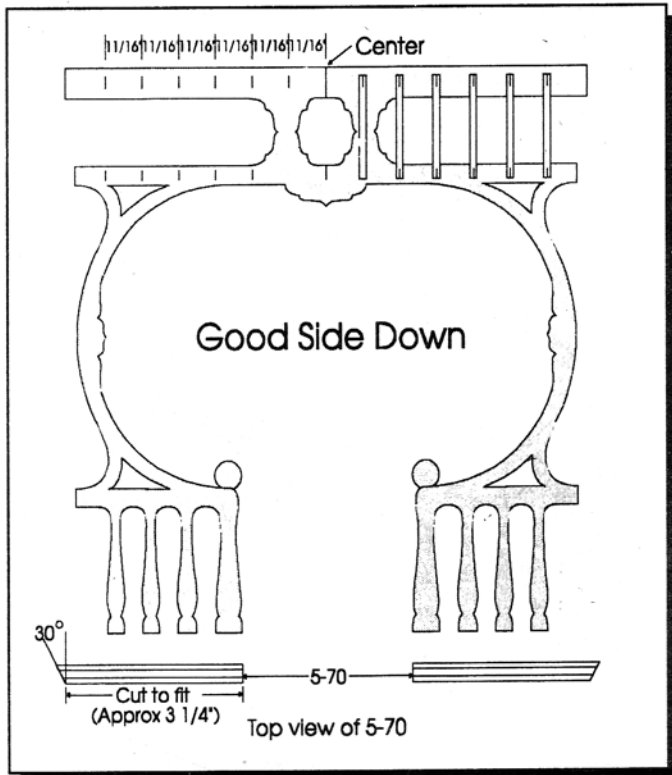

Figure 33
2. Lay the porch good side down. Mark the center. Make marks 11/16" from the center in both directions. Glue Dowels in place on marks. Glue the 5-70 to the bottoms of the porch rails. See Figure 33.